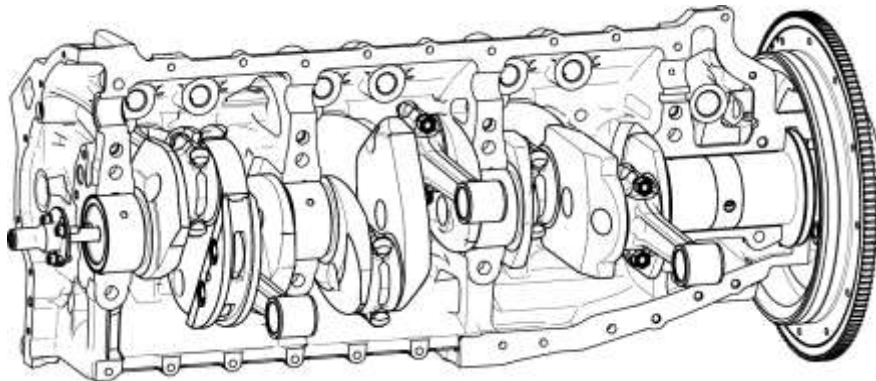
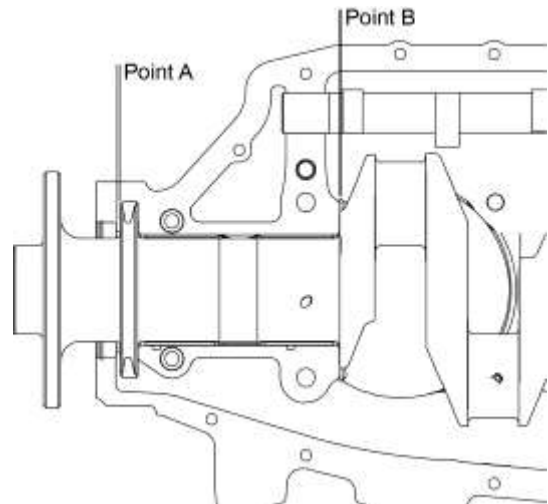

Figure 89
Figure 90
- (2) Install the front bearing halves, where they touch (butt together) around the crankshaft.
- (3) Lift the crankshaft assembly by the connecting rods. Lower the crankshaft assembly into the crankcase half (Figure 89). Let the connecting rods extend through the cylinder base openings in the crankcase half.
- (1) With the crankshaft installed in the crankcase, move the crankshaft as far forward as possible.
- (2) Use a feeler gage to measure the slinger clearance at Point A (Figure 89). Refer to the limits in Table 3. If the slinger clearance is not within the limits in Table 3, the front face of the slinger can be reground to restore the slinger clearance to within allowable limits.
- (3) Move the crankshaft to the rear as far as possible.
- (4) Use a feeler gage to measure the end play clearance with the crankcase thrust at Point B in Figure 90. Refer to the limits in Table 4. If the end play clearance is not within the limits in Table 4, examine the crankcase and/or crankshaft for wear or damage. Replace a worn or damaged component.
(Figure 90)